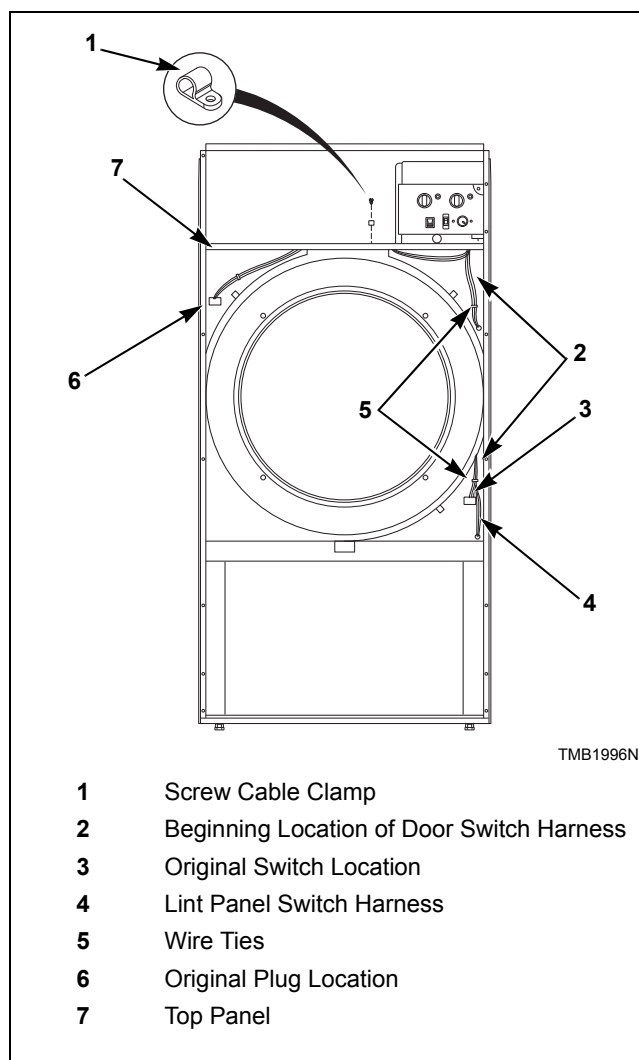

Figure 12
7. Reroute door switch harness up through top panel, along underside of front flange, through screw cable clamp, back down through top panel and into upper left quadrant of cylinder enclosure. Refer to *Figure 12*.